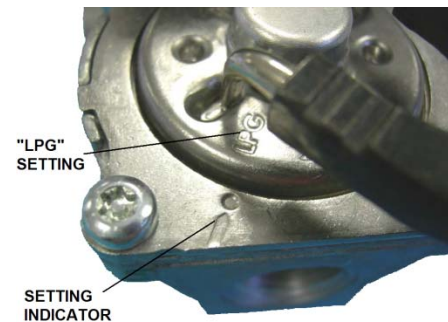

FIGURE 7
- Rotate cover dial 25 degrees counter clockwise lining up "LPG" marking with the indicator on the gas valve. See Figure 7.